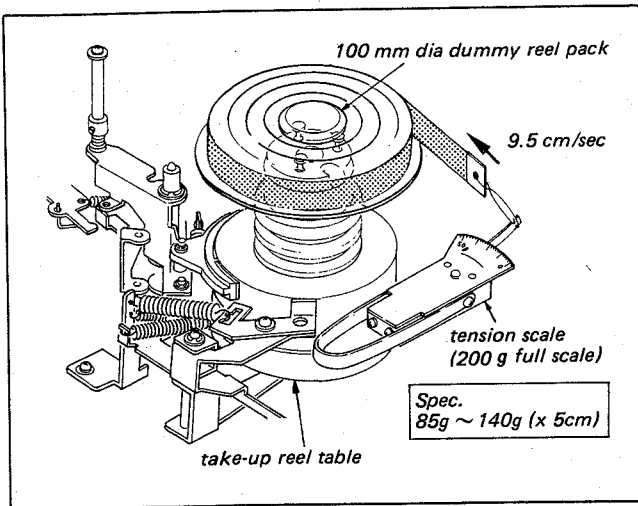

Fig. 5-5. FWD torque check (FWD mode)
1. Install a 100 mm diameter dummy reel pack tape (Jig Ref. No. J-7) on the Take-up reel-table as shown in Fig. 5-5.